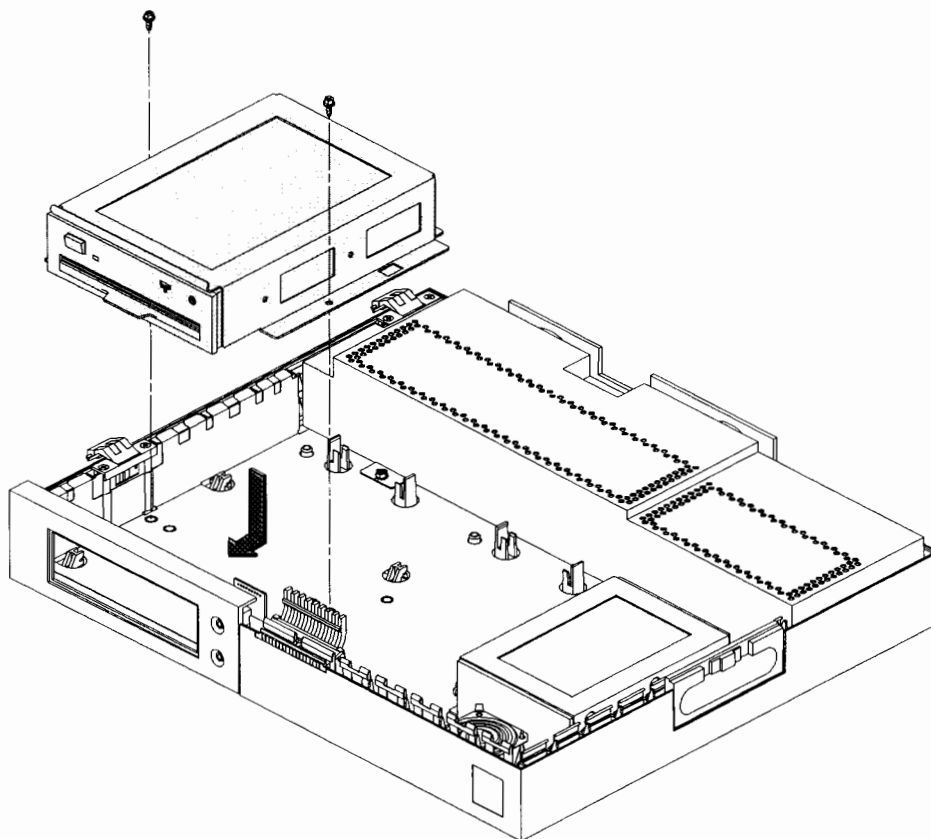

Figure B-19. Mounting the CD-ROM Drive
6. Place the CD-ROM drive assembly into the system unit so that the mounting posts line up with the cutouts in the CD-ROM drive's mounting bracket. Slide the CD-ROM drive assembly forward. Secure the CD-ROM drive assembly with the two mounting screws that came in the kit by using a #2 Phillips screwdriver, as shown in Figure B-19.